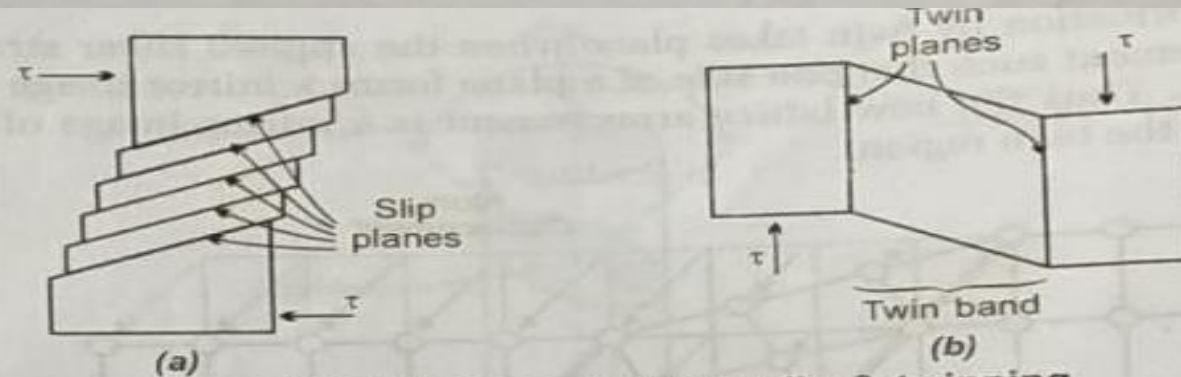

Fig. 2-22. Difference between slip & twinning
- 1) **Deformed surface:** Slip forms a series of steps (seen as lines in microscope) on the surface, whereas twinning forms a well-defined region of deformed crystal on the surface (seen as a band under microscope), as shown in Fig. 2-22.